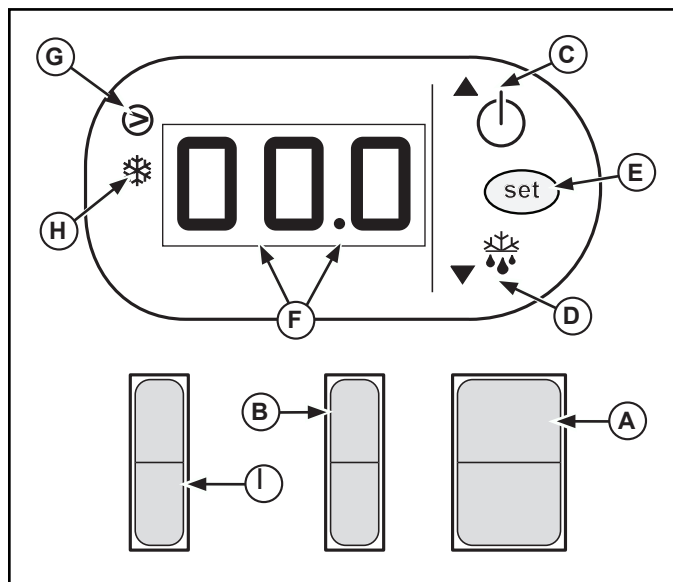

Figure 2. Refrigerated Display Cabinet Switch and Panel .
- Switch the main power switch (A) to the ON position. See Figure 2.
- Switch the light switch (B) to the ON position if desired.